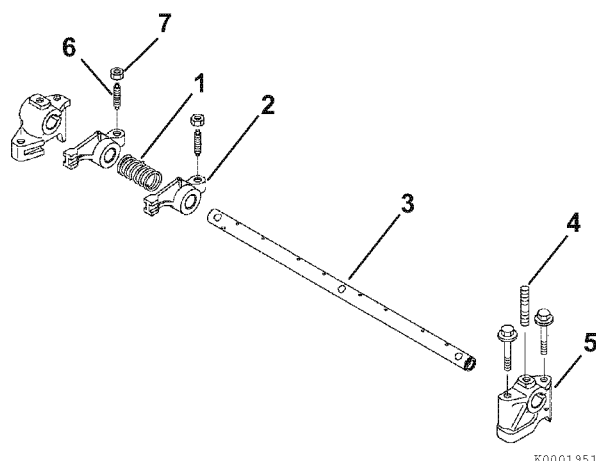

Figure 6-36
1. Lubricate the rocker arm shaft. Slide the rocker arm supports (5, **Figure 6-36**), springs (1, **Figure 6-36**) and rocker arms (2, **Figure 6-36**) onto the shaft.
- To properly align the rocker arm shaft with the rocker arm shaft supports, first reinstall a rocker arm support (5, **Figure 6-36**) having a hole for the shaft alignment stud (4, **Figure 6-36**). Align the hole in the rocker arm shaft and the hole in the rocker arm support. Reinstall the alignment stud.
Note: **Figure 6-36** shows components for one cylinder. Components for all remaining cylinders are assembled in the same order.
3. If removed, reinstall the valve adjusting screws (6, **Figure 6-36**) and the lock the nuts (7, **Figure 6-36**).